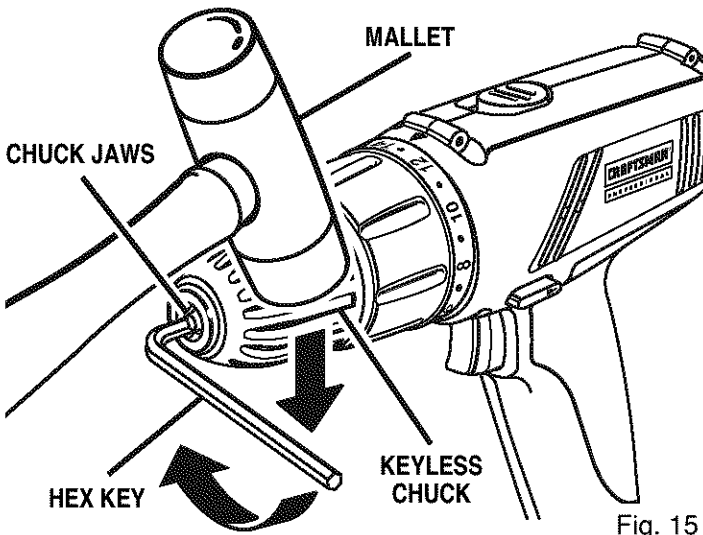

Fig. 15
See Figures 15, 16, and 17.
- Tap the hex key sharply with a mallet in a clockwise direction. See Figure 15. This will loosen the screw in the chuck for easy removal.